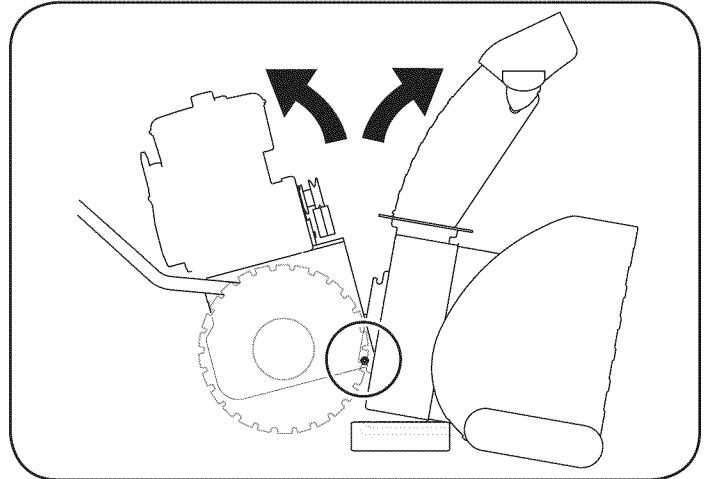

Figure 28
5. Place a block of wood underneath the auger housing as shown in Figure 28 and separate auger housing from the frame by tilting the housing forward and pulling up the handles.